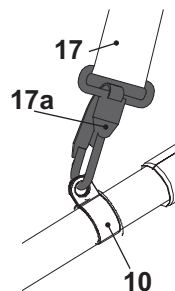

Fig. 7
4. Lock the harness (17) onto the loop (10) by the securing clip (17a) (Fig. 7).